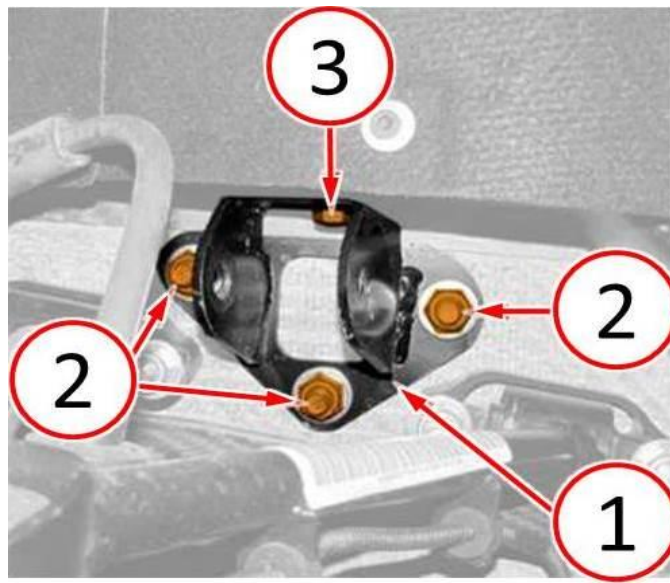

Fig. 10 Install Shock Absorber Bracket Using New Fasteners
- 17. Install the shock absorber bracket (1) to the vehicle structure (Fig. 10).
- 18. Install by hand but do not fully tighten the **NEW** M10 nuts (2) (Fig. 10).
- 19. Apply MOPAR lock & seal adhesive or equivalent to the **NEW** M8 bolt threads and install by hand but do not fully tighten the **NEW** M8 bolt (3) (Fig. 10).
- 20. Tighten the M10 nuts (2) to **55 N·m (41 ft. lbs.)** + 45 degrees (Fig. 10).
- 21. Tighten the M8 bolt (3) to **20 N·m (15 ft. lbs.)** (Fig. 10).